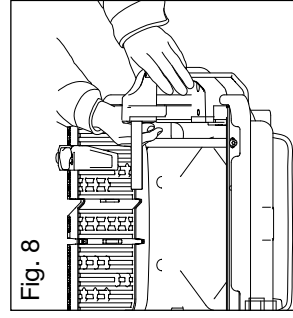

Fig. 8
22. Lower arm assembly (Fig. 8, Fig. 9)
1. Place the lower-arm assembly onto the frame assembly (Fig. 8).